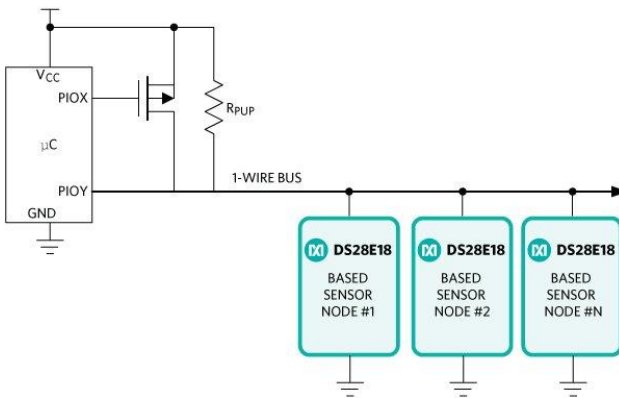

Figure 3. Multiple DS28E18-based systems.
- The second type of system can have multiple DS28E18 sharing the same 1-Wire bus connected to a 1-Wire bus controller (**Figure 3**).